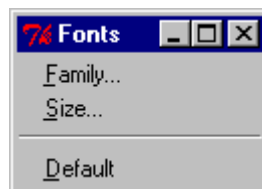

Figure 2-16. Fonts Dialog Box
- Fonts—A cascading menu that provides access to font family selection and font size selection dialog boxes. Selecting the Default item returns the interface to its original state. Figure 2-16 shows the Fonts dialog box: